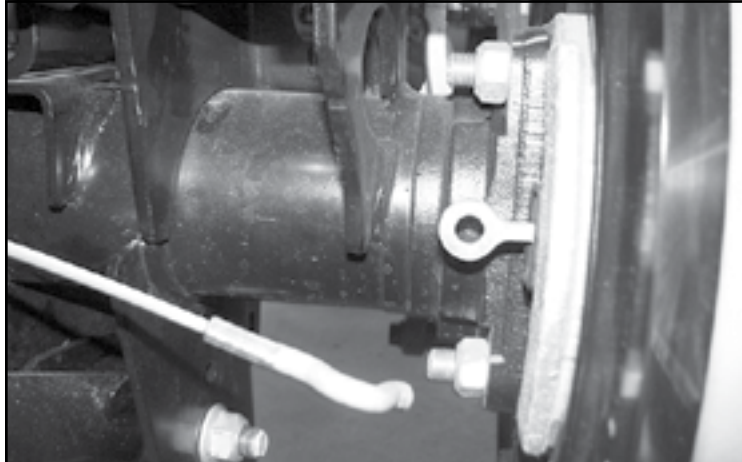
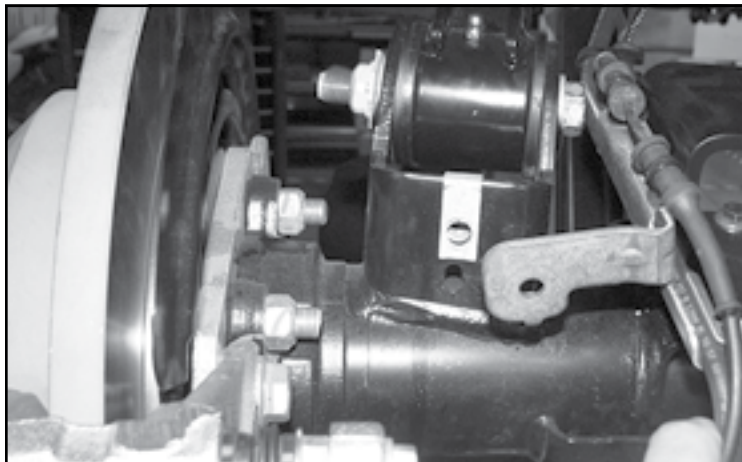

FIGURE 29 - STEP 29
FIGURE 30 - STEP 29
29. Disconnect the e-brake cables behind the rotor. **SEE FIGURE 29.** Next, Disconnect the brake line from the axle link pocket. **SEE FIGURE 30.**